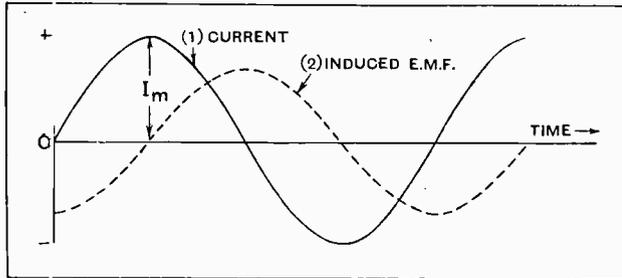

Fig. 2.—When a sine wave of current is passed through an inductive coil the induced E.M.F. is out of step by a quarter of a cycle, lagging behind the current.
a sine wave of current is passed through a coil of inductance  $L$  henrys, there will be an induced E.M.F. in the coil at all times except during the minute fraction of a second every half cycle when the current ceases to increase and begins to fall again. The sine wave of current is represented by curve (1) in Fig. 2 where  $I_m$  denotes the maximum or peak value, the "root mean square" (R.M.S.)1 or effective value being, therefore,  $I = 0.707I_m$ .
this quarter cycle. Similarly, during the time that the current is receding towards the negative maximum value, the induced E.M.F. will be positive. Consequently, the sine wave of induced E.M.F. will be in the position shown by curve (2) in Fig. 2, that is to say, lagging by a quarter of a cycle behind the current wave, because it reaches its positive maximum value a quarter of a cycle later than the current.